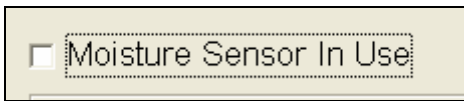

Figure 16.4.36C
- If you are currently using Moisture sensors click the **Moisture Sensor In Use** box (Figure 16.4.36C).